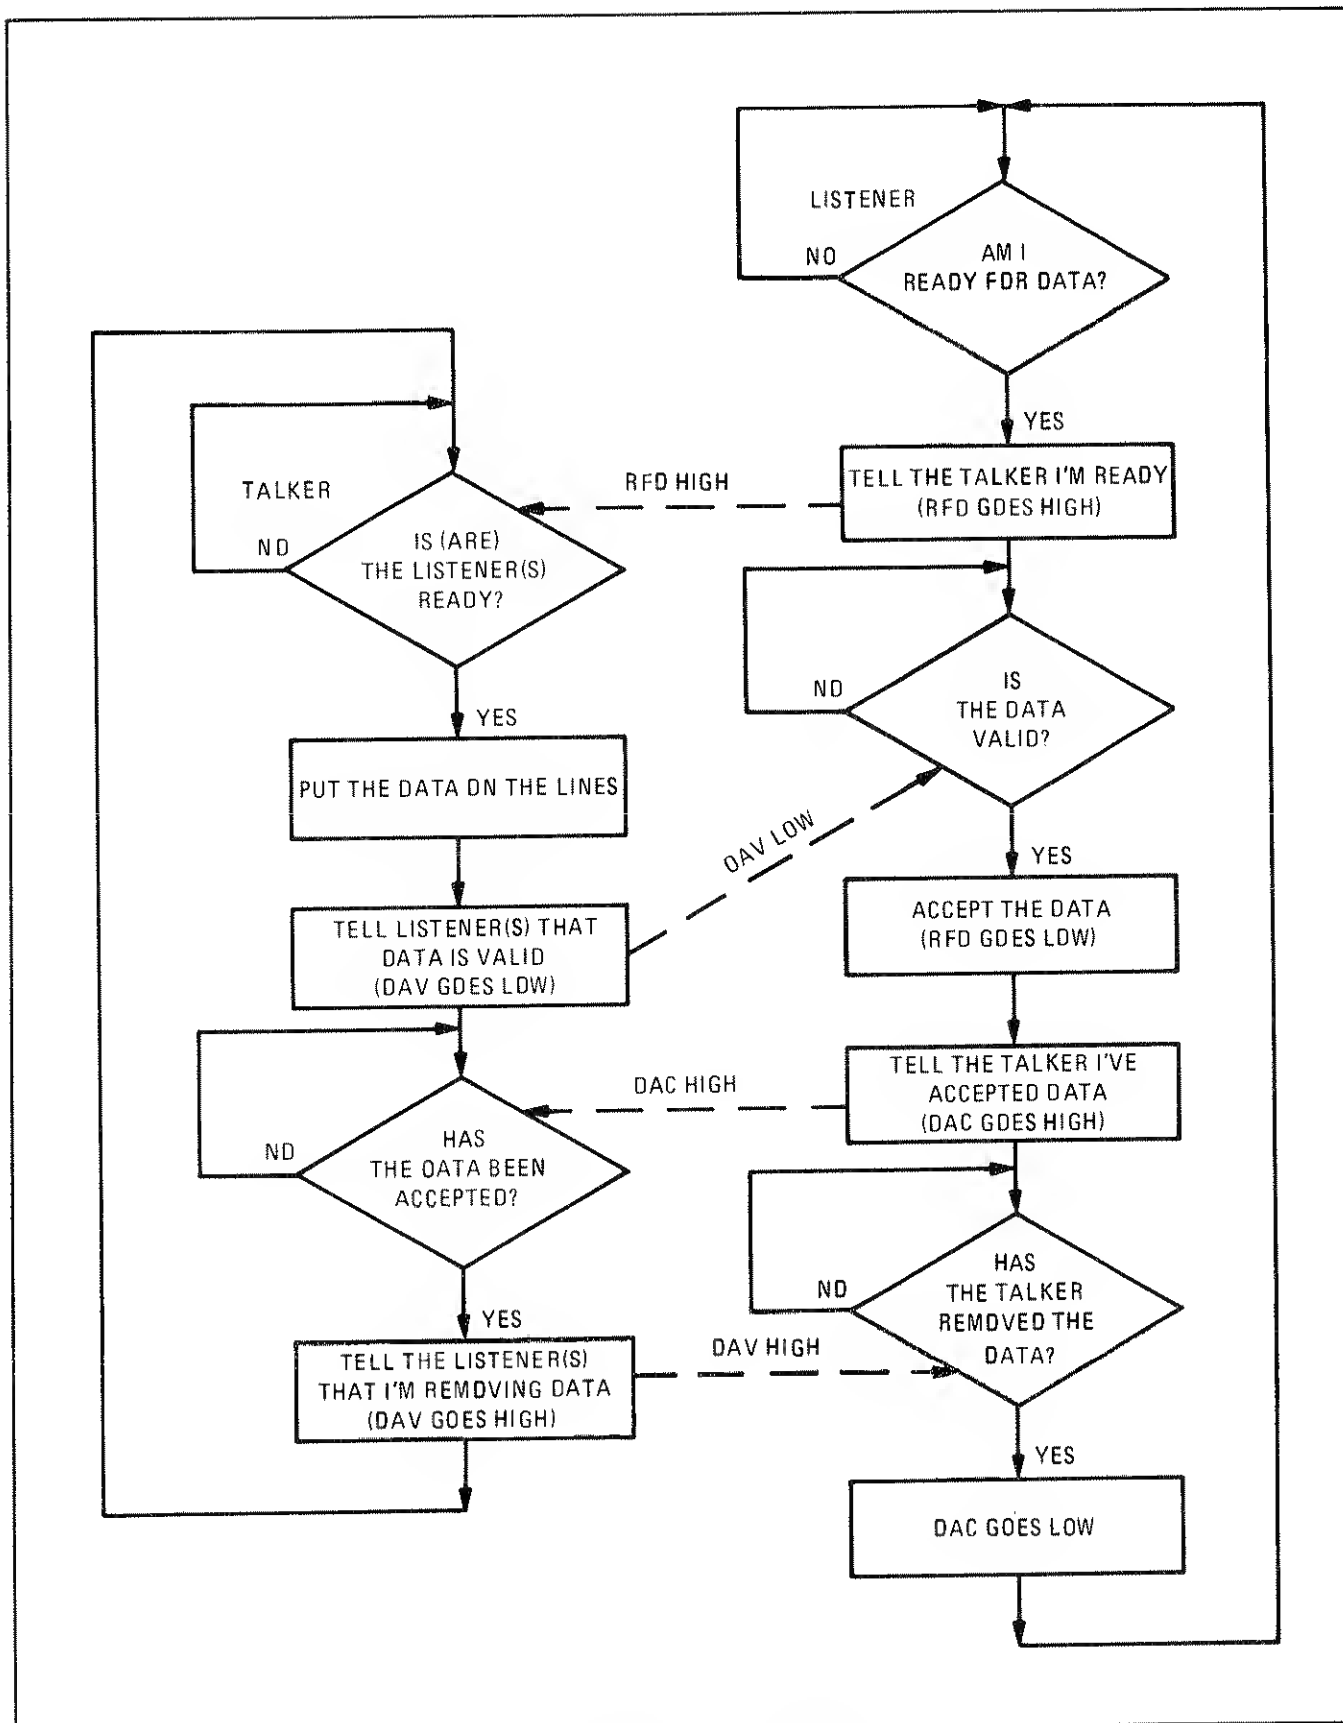

Figure 3-4. Handshake Flow Chart
d. After the DAC line has gone high, the talker can let DAV go high again and take the data off the lines. When DAV goes high, the listeners set DAC back to low and the sequence is ready to repeat with step 1 of Figure 3-4.
Figure 3-4 illustrates a flow chart of the three-wire handshake operation.